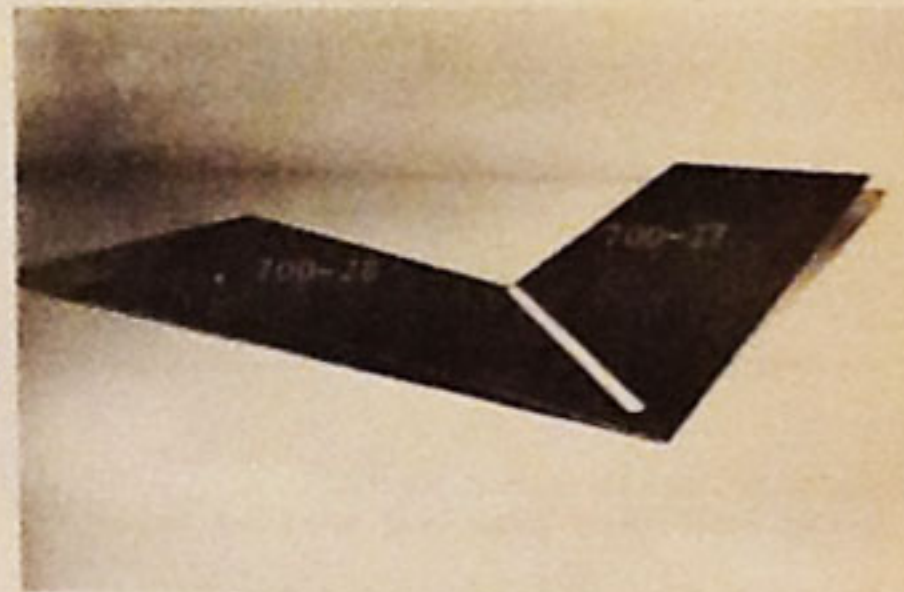

Figure 15
19. Run a piece of masking tape down the seam as shown in fig. 15. Dry fit to house.